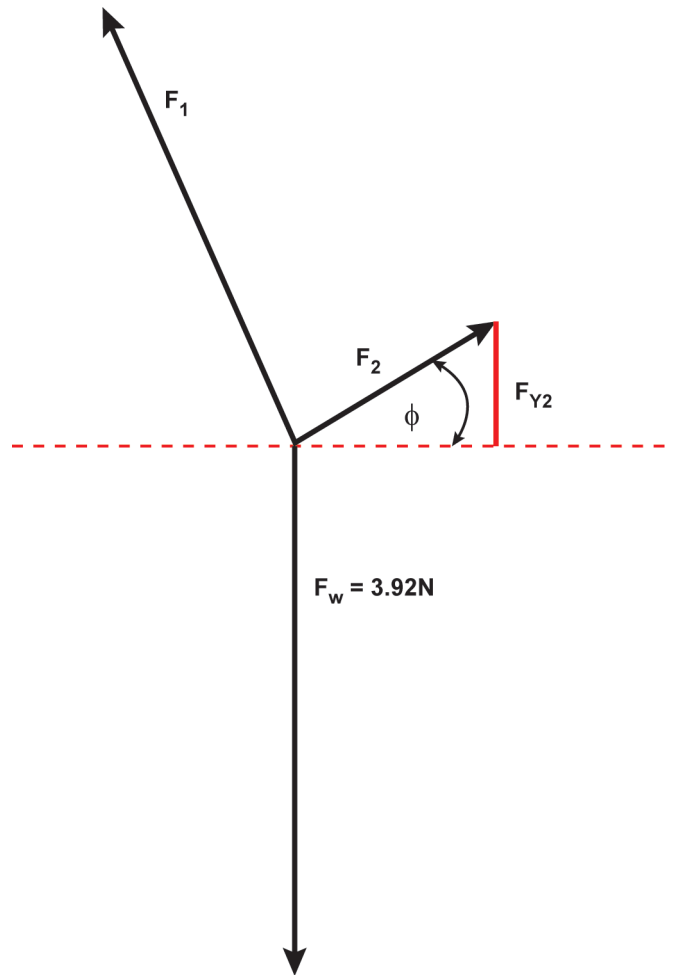

Figure 9
- ❑ 2. Figure 9 shows the vertical component of F_2 . The vertical component of F_2 can be written as: